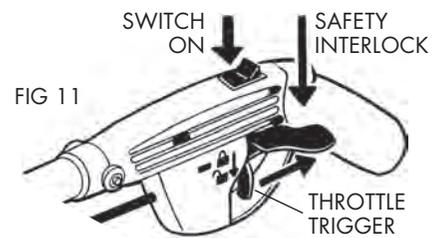

FIG 11
1. Switch engine on (Fig. 11). Engine starts on idle.
6. Throttle Trigger (engine accelerator control) is operated by pushing down interlock with thumb and pulling on trigger (Fig. 11).
5. **Use both arms extended downwards**, as in Fig. 16, hold both handle grips firmly. Accelerate engine by pushing down safety interlock with thumb and pulling trigger to full throttle (Fig. 11). Blades must be spinning. To stop blades rotating, release trigger.